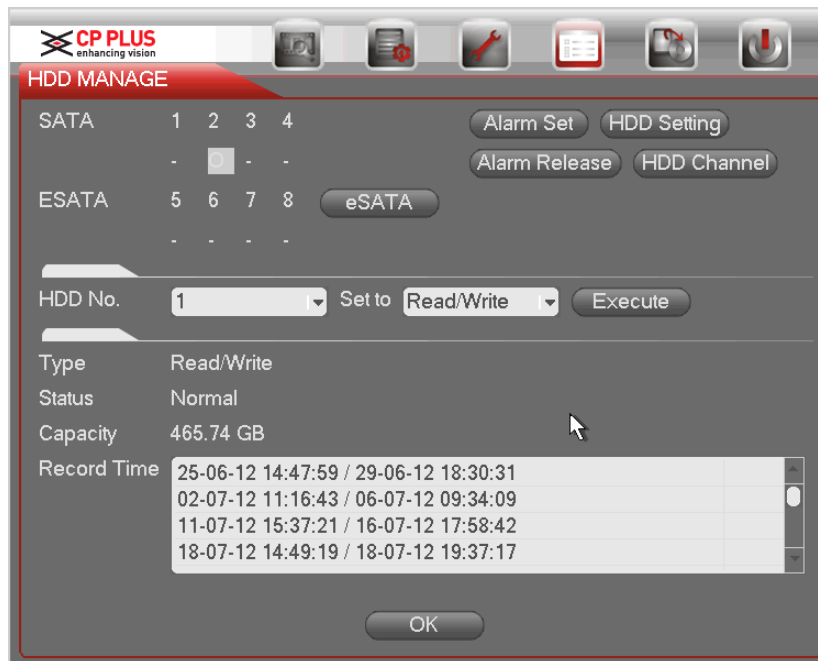

Figure 2-72
In the main menu, from Advanced to HDD management, you can set one or more disk(s) as redundant. You can select from the dropdown list. See Figure 2-72. System auto overwrites old files once hard disk is full.
- Set redundant disk(s) as read-only disk or read-write disk (Main menu->Advanced->HDD management). See Figure 2-72. System needs to reboot to get setup activated. Now you can search or playback file in redundant disk.